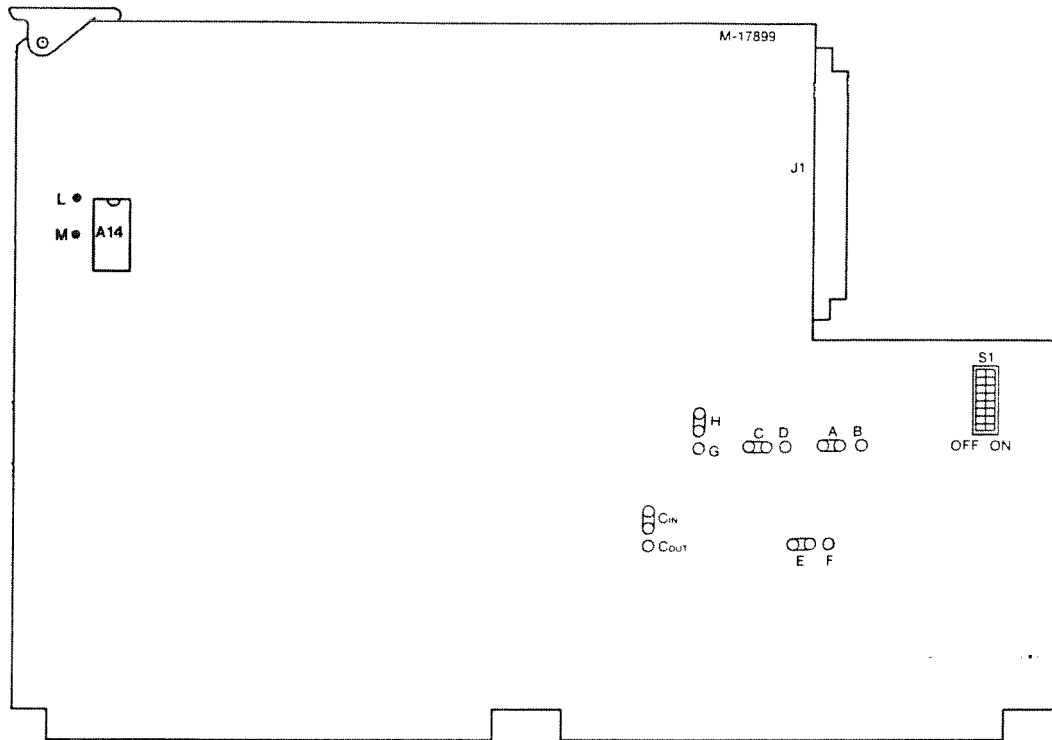

Figure A-4
A.5 MISCELLANEOUS LOGIC BOARD (Figure A-4)